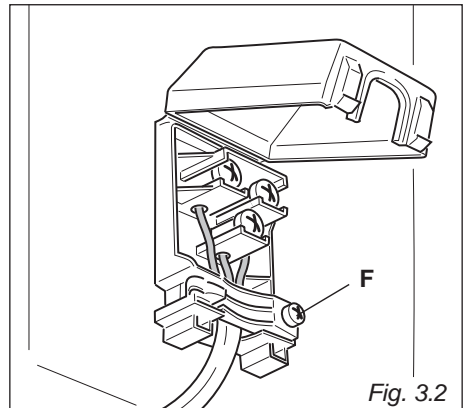
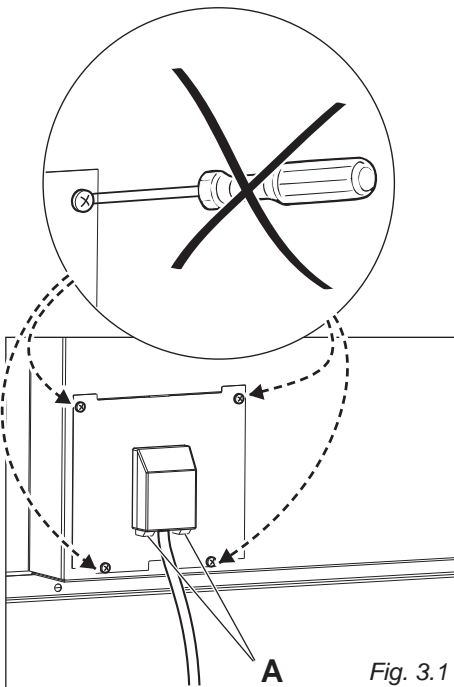

Fig. 3.2
Fig. 3.1
- Unhook the terminal board cover by inserting a screwdriver into the two hooks "A" (fig. 3.1).
- Open the cable gland by unscrewing screw "F" (fig. 3.2), unscrew the terminal screws.
Gas flow to the burners is adjusted by turning the knobs (illustrated in fig. 3.1) which control the safety valves. Turning the knob, so that the symbols printed on the knob itself point to the symbol printed on the control panel, achieves the following functions:
1. Press in the corresponding knob and turn counter-clockwise (fig. 3.2) to the full flame position marked by the  symbol (fig. 3.1); hold the knob in until the flame has been lit.